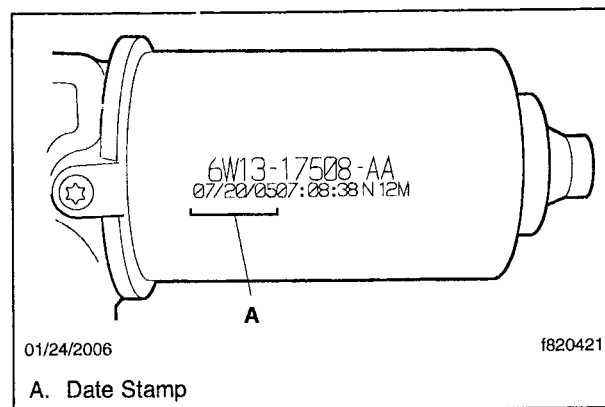

Fig. 1, Wiper Motor
4. Clean the wiper-motor housing and inspect the date stamp. See **Fig. 1**